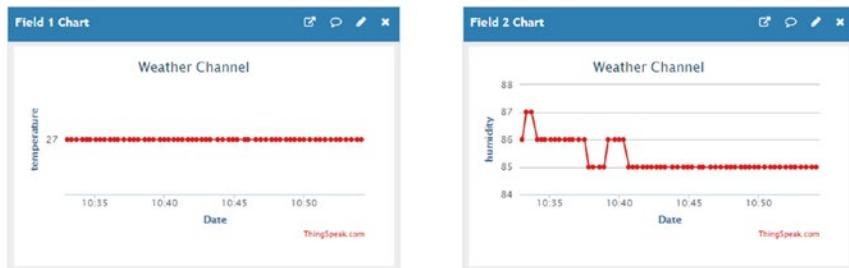

Figure 7-23. Charts for temperature and humidity data
4. Go to the ThingSpeak and open your channel (Weather Channel). Scroll down the page, and you can see your charts are populated with temperature and humidity data (Figure 7-23).